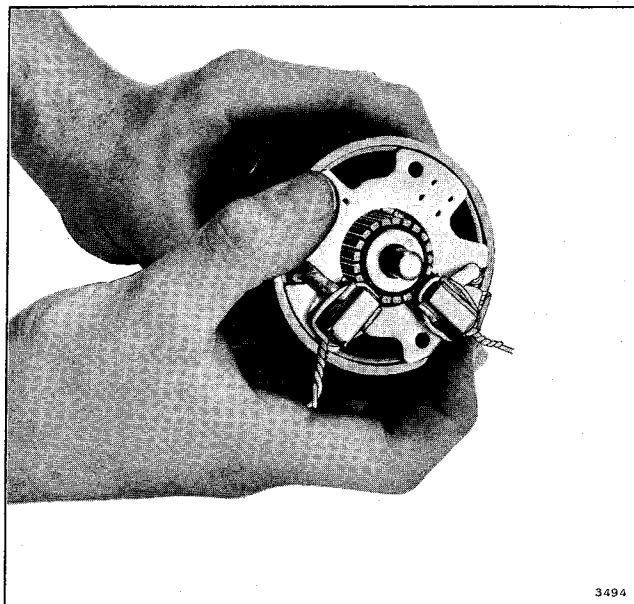

Figure 7-13. Reassembling Starter
c. To facilitate reassembly of the starter motor, insert brushes and brush spring in holder, and tie in place with fine wire or string. Assemble brush holder and armature to frame and field assembly, and remove string or wire. See Figure 7-13.